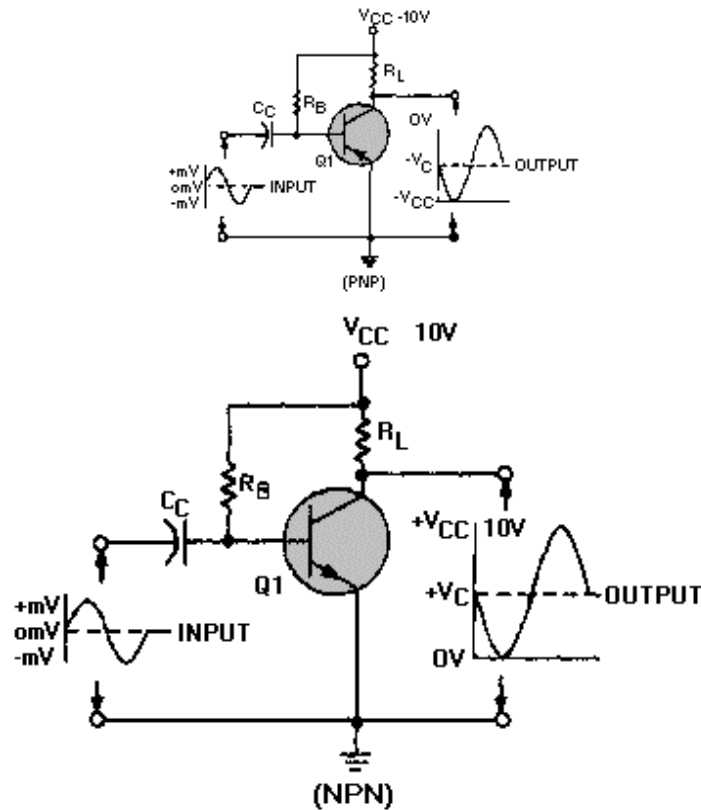
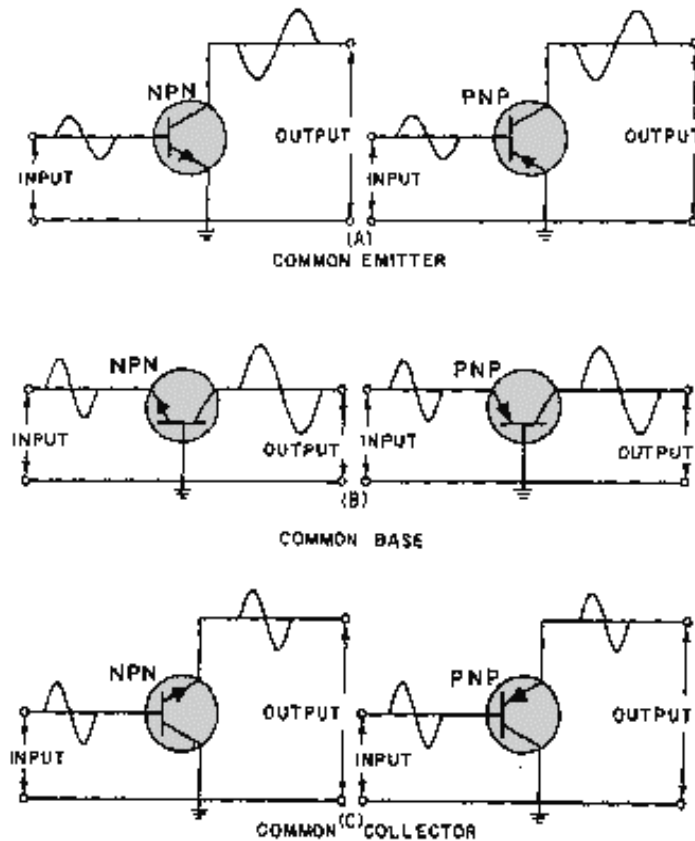

Figure 2-12.—The basic transistor amplifier.
Figure 2-16.—Transistor configurations.
Now take a look at the NPN version of the basic transistor amplifier in figure 2-12 and let's see just how it works.
By inserting one or more resistors in a circuit, different methods of biasing may be achieved and the emitter-base battery eliminated. In addition to eliminating the battery, some of these biasing methods compensate for slight variations in transistor characteristics and changes in transistor conduction resulting from temperature irregularities. Notice in figure 2-12 that the emitter-base battery has been eliminated and the bias resistor  $R_B$  has been inserted between the collector and the base. Resistor  $R_B$  provides the necessary forward bias for the emitter-base junction. Current flows in the emitter-base bias circuit from ground to the emitter, out the base lead, and through  $R_B$  to  $V_{CC}$ . Since the current in the base circuit is very small (a few hundred microamperes) and the forward resistance of the transistor is low, only a few tenths of a volt of positive bias will be felt on the base of the transistor. However, this is enough voltage on the base, along with ground on the emitter and the large positive voltage on the collector, to properly bias the transistor.
The first biasing method, called BASE CURRENT BIAS or sometimes FIXED BIAS, was used in figure 2-12. As you recall, it consisted basically of a resistor ( $R_B$ ) connected between the collector supply voltage and the base. Unfortunately, this simple arrangement is quite thermally unstable. If the temperature of the transistor rises for any reason (due to a rise in ambient temperature or due to current flow through it), collector current will increase. This increase in current also causes the dc operating point, sometimes called the quiescent or static point, to move away from its desired position (level). This reaction to temperature is undesirable because it affects amplifier gain (the number of times of amplification) and could result in distortion, as you will see later in this discussion.
Biasing an amplifier in this manner places the dc operating point between cutoff and saturation and allows collector current to flow during the complete cycle (360 degrees) of the input signal, thus providing an output which is a replica of the input. Figure 2-12 is an example of a class A amplifier. Although the output from this amplifier is 180 degrees out of phase with the input, the output current still flows for the complete duration of the input.
A transistor may be connected in any one of three basic configurations (fig. 2-16): common emitter (CE), common base (CB), and common collector (CC). The term common is used to denote the element that is common to both input and output circuits. Because the common element is often grounded, these configurations are frequently referred to as grounded emitter, grounded base, and grounded collector.
Therefore, by applying these three simple steps to the circuit in figure 2-12, we can conclude that this circuit is more than just a basic transistor amplifier. It is a common-emitter amplifier.
The common-emitter configuration (CE) shown in figure 2-16 view A is the arrangement most frequently used in practical amplifier circuits, since it provides good voltage, current, and power gain. The common emitter also has a somewhat low input resistance (500 ohms-1500 ohms), because the input is applied to the forward-biased junction, and a moderately high output resistance (30 kilohms-50 kilohms or more), because the output is taken off the reverse-biased junction. Since the input signal is applied to the base-emitter circuit and the output is taken from the collector-emitter circuit, the emitter is the element common to both input and output.
Since you have already covered what you now know to be a common-emitter amplifier (fig. 2-12), let's take a few minutes and review its operation, using the PNP common-emitter configuration shown in figure 2-16 view A.
The common-base configuration (CB) shown in figure 2-16, view B is mainly used for impedance matching, since it has a low input resistance (30 ohms-160 ohms) and a high output resistance (250 kilohms-550 kilohms). However, two factors limit its usefulness in some circuit applications: (1) its low input resistance and (2) its current gain of less than 1. Since the CB configuration will give voltage amplification, there are some additional applications, which require both a low-input resistance and voltage amplification, that could use a circuit configuration of this type; for example, some microphone amplifiers.
Unlike the common-emitter circuit, the input and output signals in the common-base circuit are in phase. To illustrate this point, assume the input to the PNP version of the common-base circuit in figure 2-16 view B is positive. The signal adds to the forward bias, since it is applied to the emitter, causing the collector current to increase. This increase in  $I_C$  results in a greater voltage drop across the load resistor  $R_L$  (not shown), thus lowering the collector voltage  $V_C$ . The collector voltage, in becoming less negative, is swinging in a positive direction, and is therefore in phase with the incoming positive signal.
The common-collector configuration (CC) shown in figure 2-16 view C is used mostly for impedance matching. It is also used as a current driver, because of its substantial current gain. It is particularly useful in switching circuitry, since it has the ability to pass signals in either direction (bilateral operation).